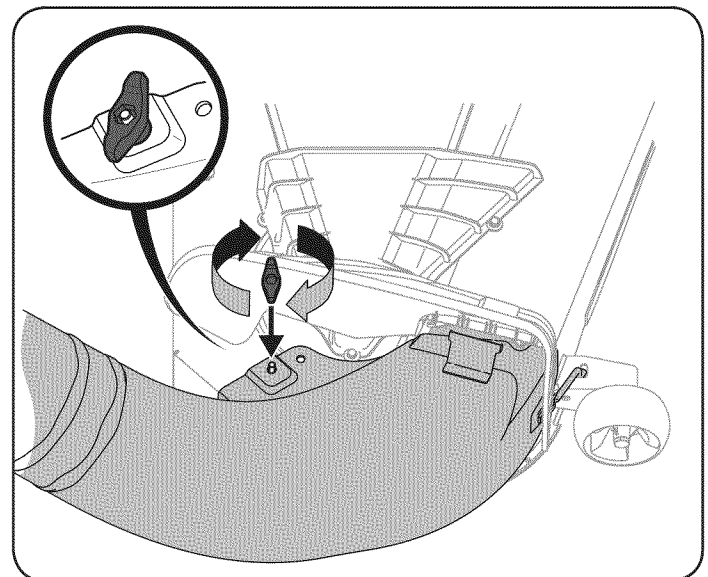

Figure 17
6. Secure the discharge chute elbow to the cutting deck using a (720-04122) wing knob included in Hardware Pack 689-00341. Refer to Figure 17.